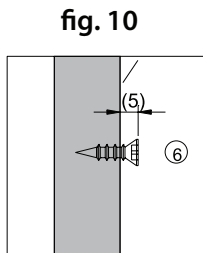
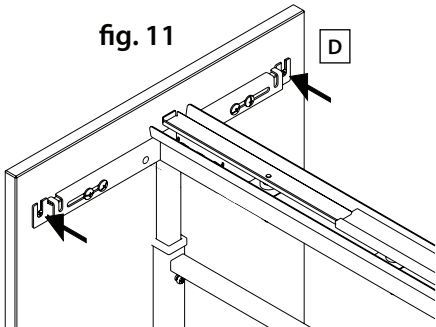

fig. 10
fig. 11
- 14) Now you are ready to hang the door. Drive two screws (#6) into only the top two pilot holes per figure 10. Position the door so the screws fit into the T type door mount bracket (figure 11). Double check to make sure the door is in the correct position, using two #6 screws affix bottom T door mount bracket to door (figure 12) and tighten top screws.